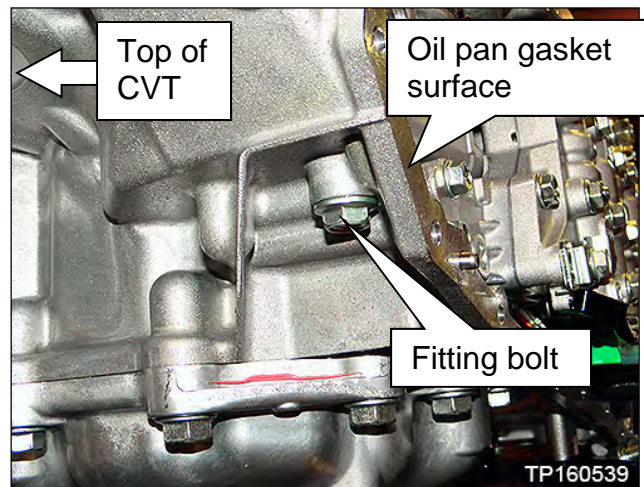

Figure 55
- Remove the fitting bolt located above the corner of the oil pan gasket surface (Figure 55).